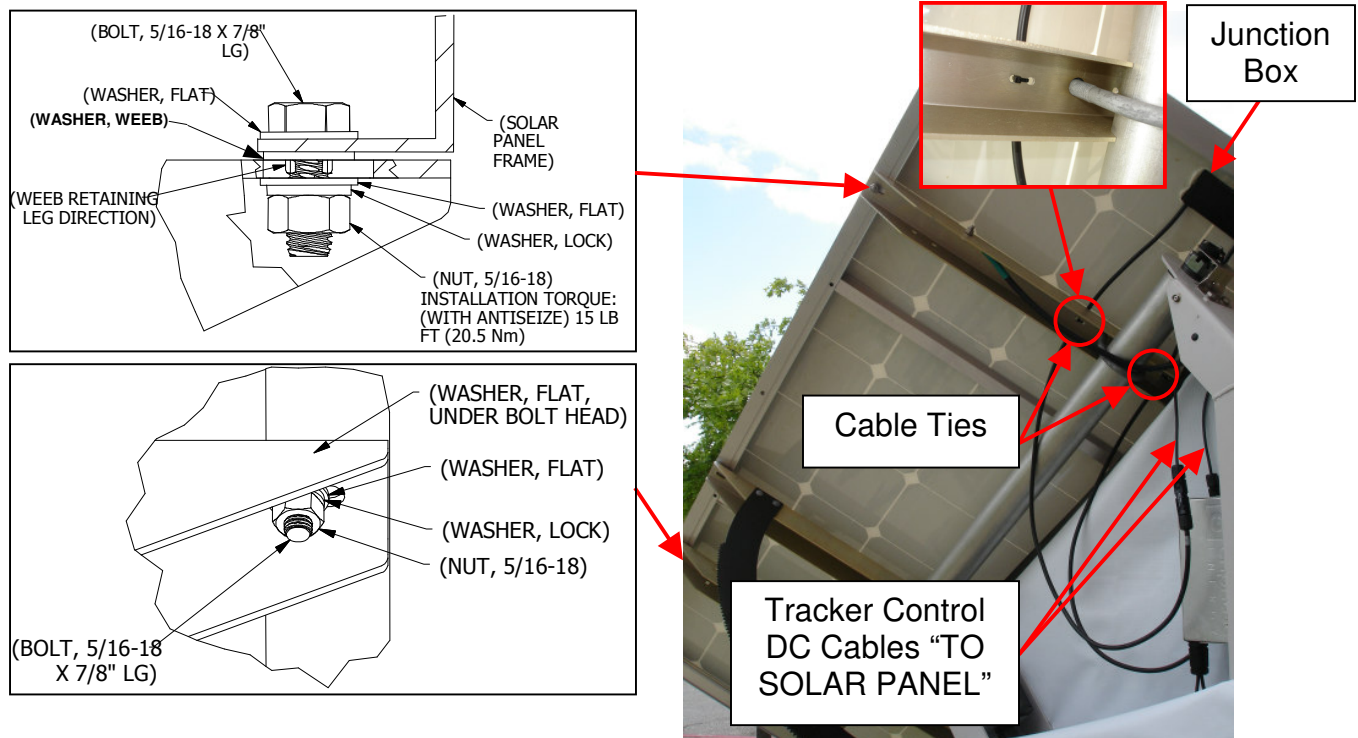

Figure 16
1. Orient the solar panel with its cable Junction Box up. Mount the Solar Panel to the upper and lower channels using the Solar Panel Installation Hardware from SPT2160 kit. Two mounting locations per mounting channel. Be sure to use the two provided WEEB Grounding washers between the upper “Ground” channel and the Solar Panel frame. See Figure 16.
2. Route the Solar Panel cables as shown and secure with cable ties. Connect Solar Panel cables to the Tracker Controller Cables (labeled “TO SOLAR PANELS”). See Figure 16.